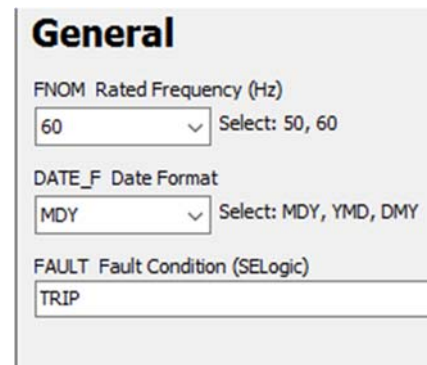

Figure 34: SEL 700G General
- a. Under General settings (Figure 34), replace the default Fault Condition (**FAULT**) contents with **TRIP**.